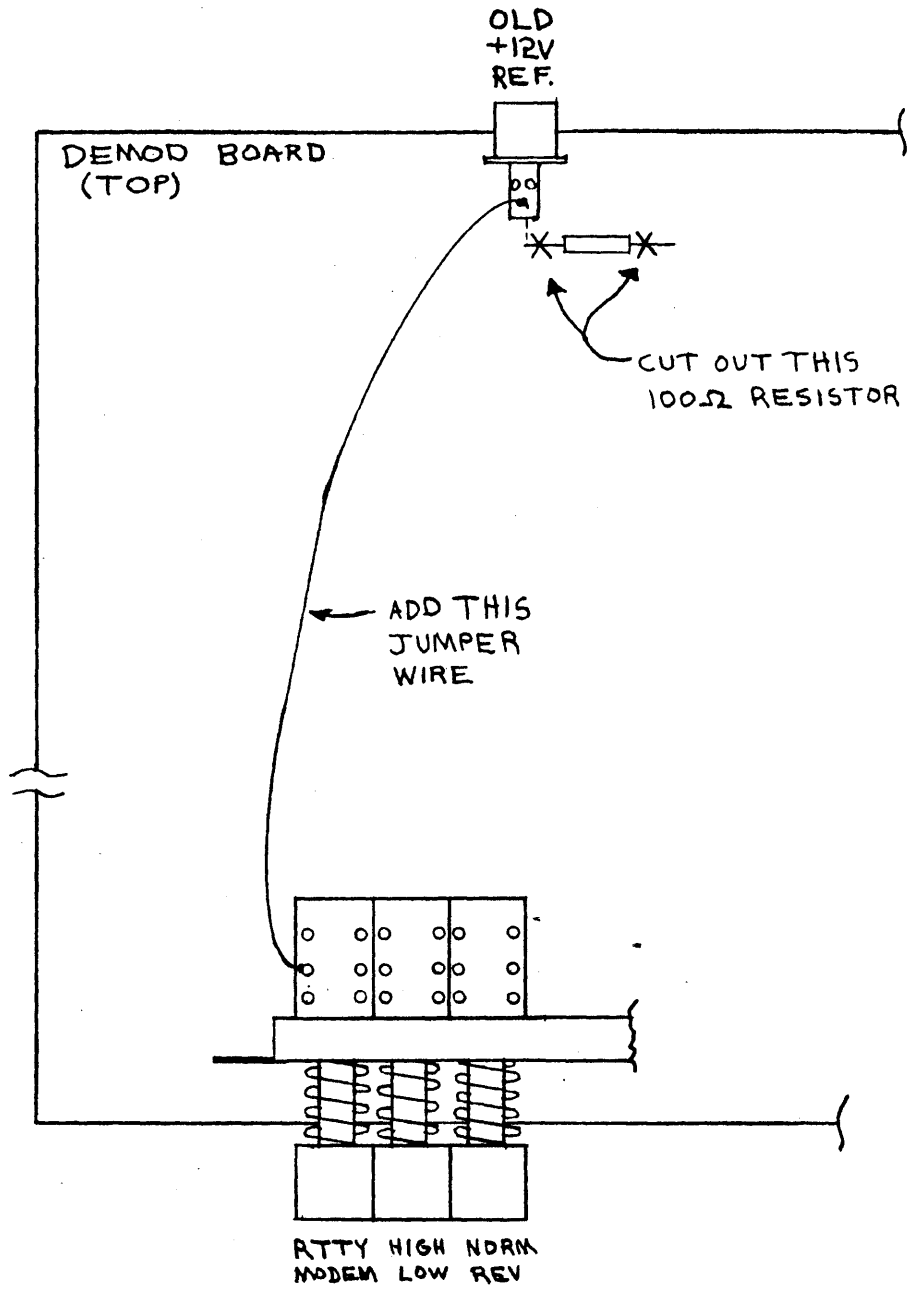

Figure 18. ARQ1000 RX DATA OUT Connection
- () Connect the other end of this wire to the left center pin of the RTTY/MODEM front panel switch as shown in Figure 18.